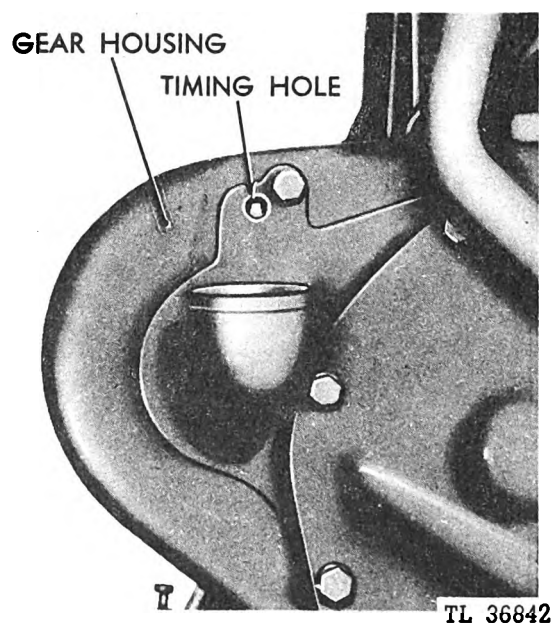

Fig. 190. Fuel Pump Gear Housing
(3) Slip the fuel pump into the gear housing, as shown in Figure 81, meshing the gears so that the marked tooth of the fuel pump gear centers as close as possible in the  $\frac{1}{4}$ -inch pipe plug hole in the gear housing. (See Figure 190.) Tighten the five nuts and one through bolt holding the adaptor to the gear housing.